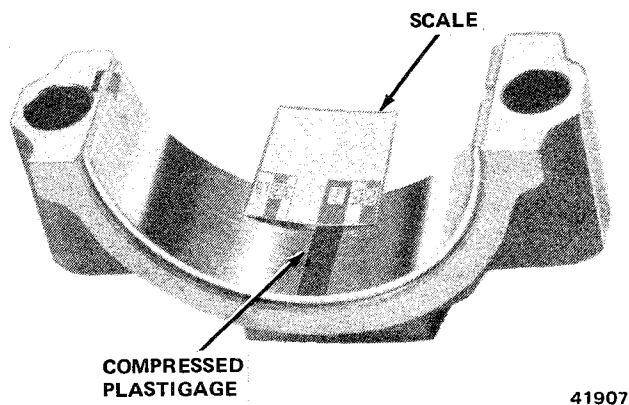

Fig. 1B-95 Connecting Rod Bearing Clearance Measurement with Plastigage
- (5) Remove bearing cap and determine amount of clearance by measuring width of compressed Plastigage with scale on Plastigage envelope (fig. 1B-95).